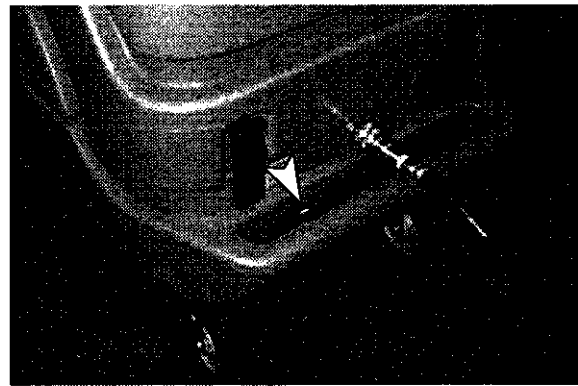

FIG. 6
10. After preheating the solution, turn the pump and heater switches off momentarily. Then turn the PREHEAT/CLEAN knob to the CLEAN position. After turning the knob, turn the pump and heater switches back on again. **IMPORTANT:** The pump switch must always be turned off when turning the PREHEAT/CLEAN knob to prevent machine damage (Figure 6). While operating, the CLEAN mode will increase the preheated solution temperature an additional 11°C (20°F) at the spray tips. *Example: Preheated solution temperature of 66°C (150°F) will increase to a maximum temperature of approximately 77°C (170°F).*